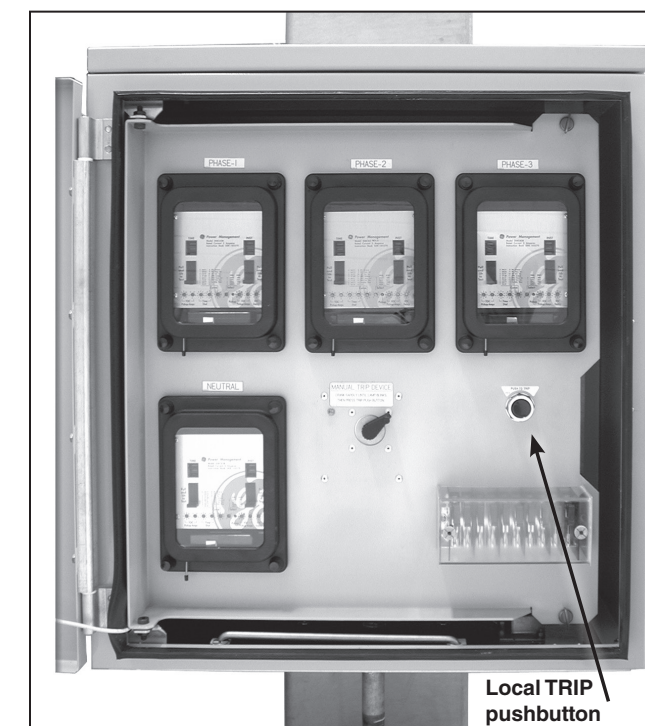

Figure 8. If the transformer is carrying load, press the local TRIP pushbutton to trip the Trans-Rupter II Transformer Protector.
- If the transformer is carrying load,** press the local TRIP pushbutton inside the control cabinet for about one second. See Figure 8.